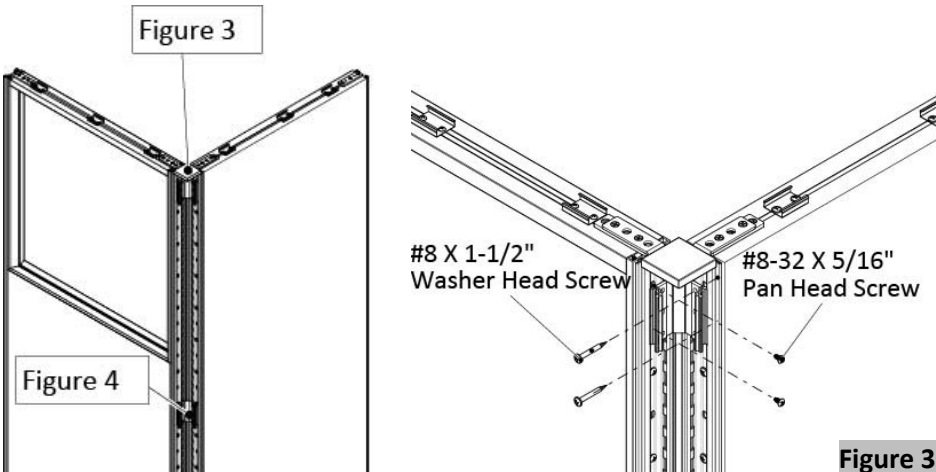

Figure 3
- Position the 90-degree filler connector at desired location, (Figure 3).